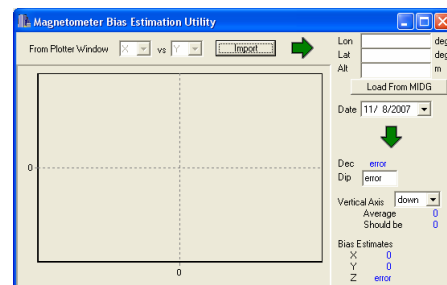

Figure 7. Magnetometer Bias Estimation Utility.
7. **Press the "Mag Cal Utility" button at the bottom right of the "Plot" utility** to display the "Magnetometer Bias Estimation Utility (Figure 7).